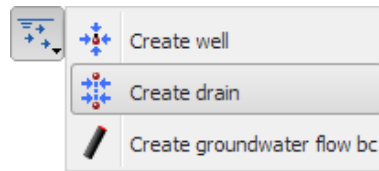

Figure 9-4: Create Drain option
- 1 Click the **Create hydraulic conditions** button in the side toolbar and select the **Create drain** option in the appearing menu which is shown in Figure 9-4 \(p. 150\).